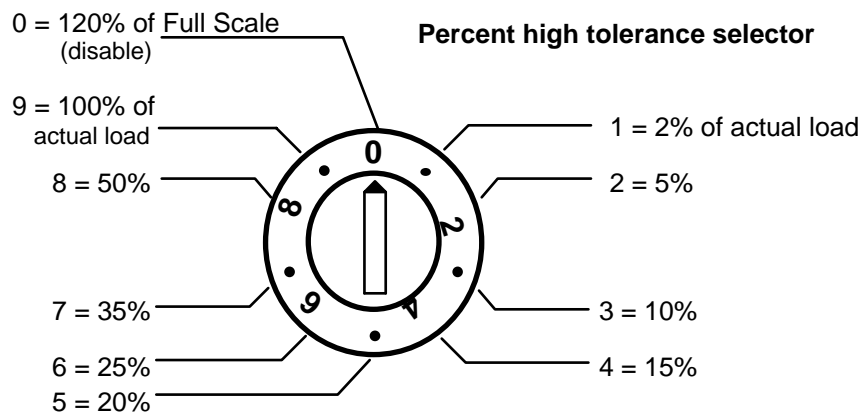

Figure 4-3. Percent high tolerance selector switch
3. Look at Figure 4-3 to become familiar with the selector setting switch. (This drawing is also shown on a label inside the AutoSet Plus door.) The selector dial has settings from 0 to 9. Each of the settings represent a percent. The first dot to the right of 0 is 1. 1 = 2%; 2 = 5%; 3 = 10%; 4 = 15%, and so on.